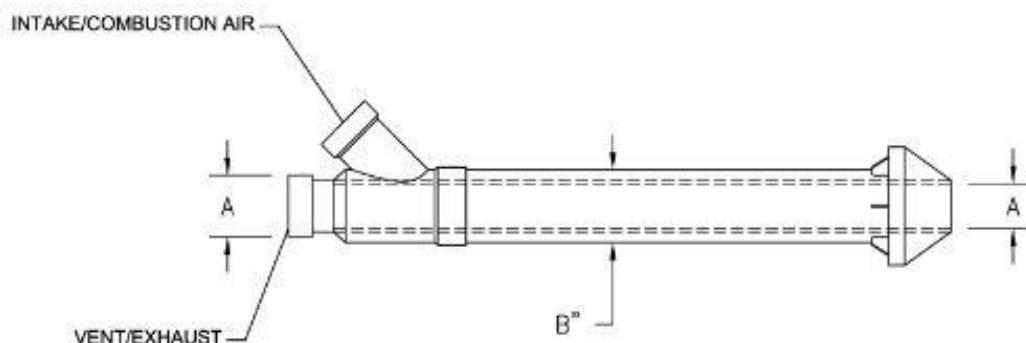

Figure 20 - Dimensional Layout of 3" & 4" Concentric Vent Kits
1. Become familiar with the approved coaxial vent kits from IPEX, as shown in Table 4 and Figures 20 through 22.